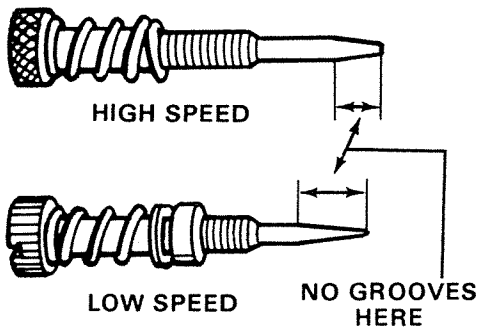

Figure 14. Inspecting Adjustment Screws.
6. Remove low and high speed adjustment screws. Inspect for damage, especially the needle points which should have no rings or grooves where they seat. Figure 14.